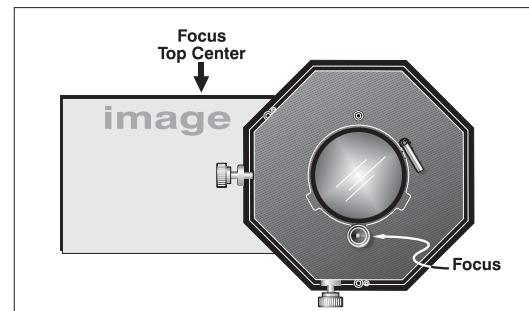

Figure 2.39 Adjust Top Focus
1. When left/right boresight is complete, focus the image at the top edge of the screen (Figure 2.39). If the bottom remains blurry while the top edge is focused, refer back to Step 2 but use a paper at the *bottom* of the screen to determine whether the bottom of the image is focused in front of the screen or behind the screen. If the bottom is well focused, skip to Step 11.